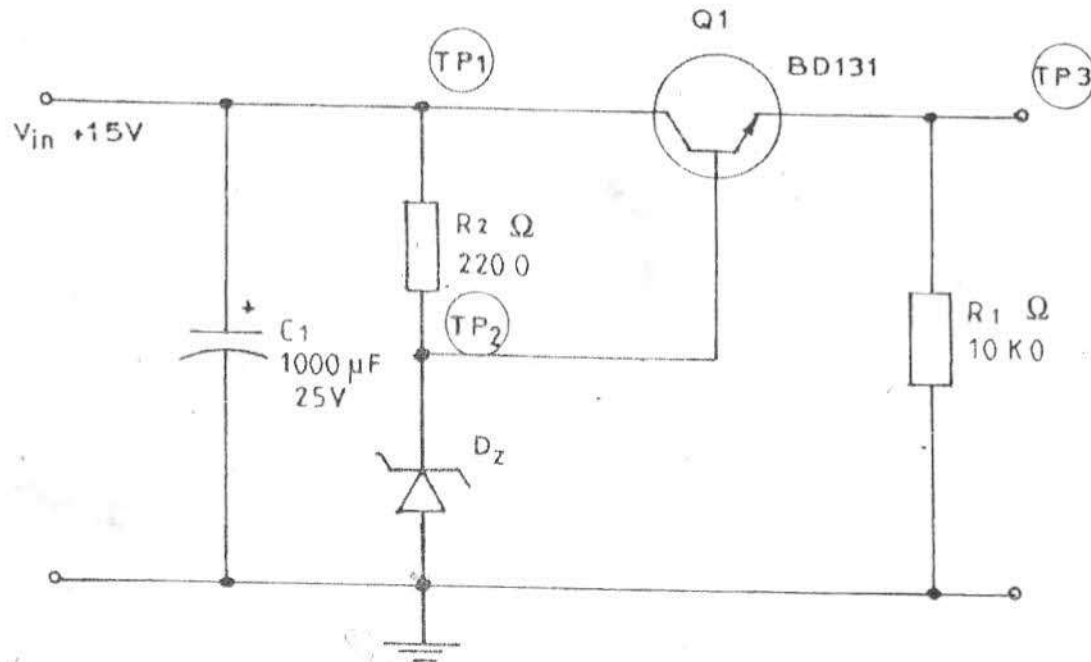

Fig 4
4. Figure 4 shows a transistor series voltage regulator.